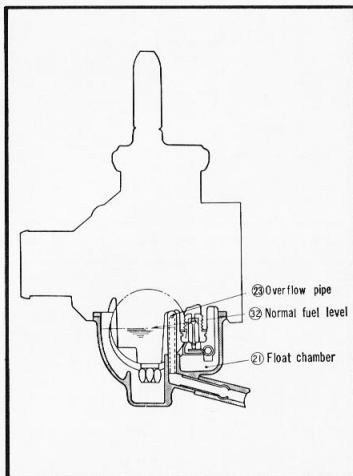

Figure 3-109. Fuel level adjustment
It is difficult to directly measure the fuel level, therefore, the fuel is determined by measuring the height (H) of the float. (Fig. 3-109, 3-110)